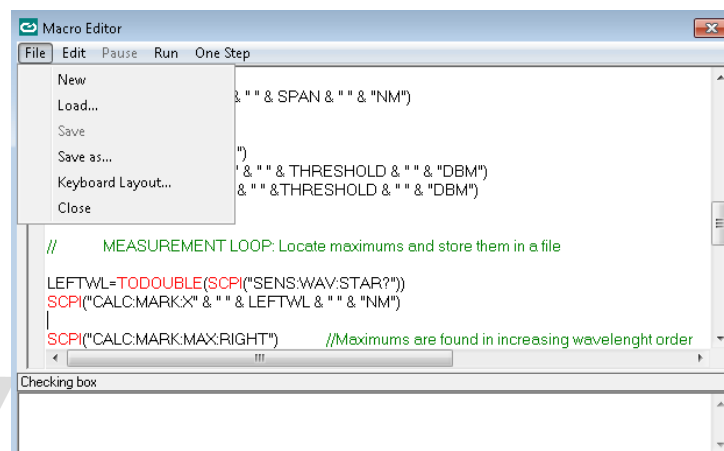

Fig. 8.1 Macro editor
- 2 Press *Macro Editor* button. The interface of the *Macro Editor* will appear (fig 8.1)
- 3 Remove the optical adapter pushing upwards the horizontal metal bar below the connector. With special care pull out the adapter to extract it from the front panel. Please, refer to figure 8.1